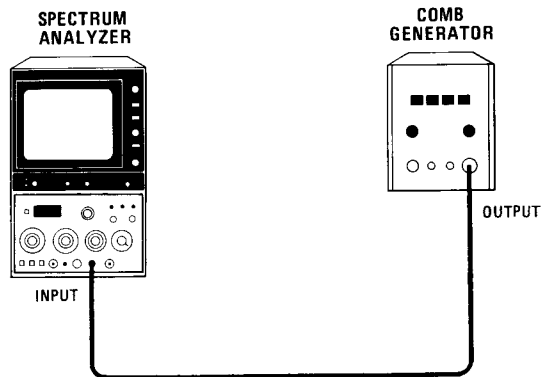

Figure 4-7. Residual FM Test Setup
2. Connect OUTPUT of comb generator to spectrum analyzer INPUT as shown in Figure 4-7.